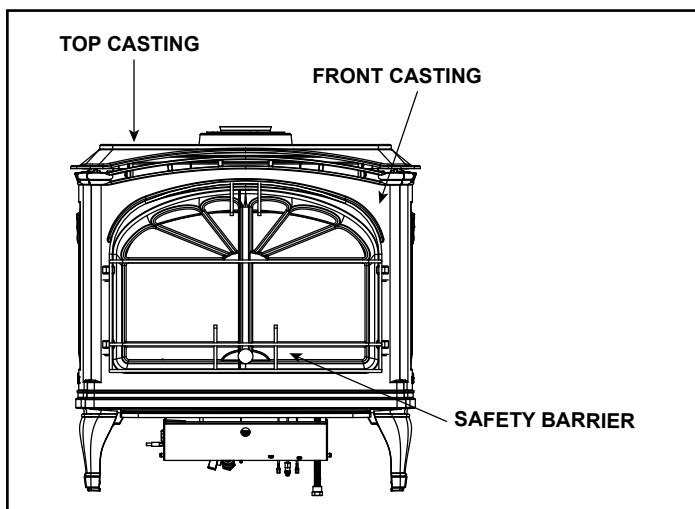

Figure 10.1 Remove Casting
2. Remove front casting by grasping it at the top and lifting up. If the stove is already installed in a top vent configuration, the top casting will need to be lifted slightly to accommodate removal of the front casting. See figure 10.1. Set front casting aside on prepared work surface.
Reinstall the glass by reinstalling the three fasteners into the top of the glass frame assembly using a #2 Phillips bit. Tighten until snug. Do not overtighten. See Figure 10.1 and 10.2 for reference. Reinstall front casting by setting in place and tightening the thumb screw.